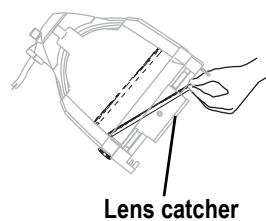

Figure 7
- Step 6: When the lens drops, remove your finger, allowing the lens to slide forward until it rests on the lens catchers. See Figure 7.